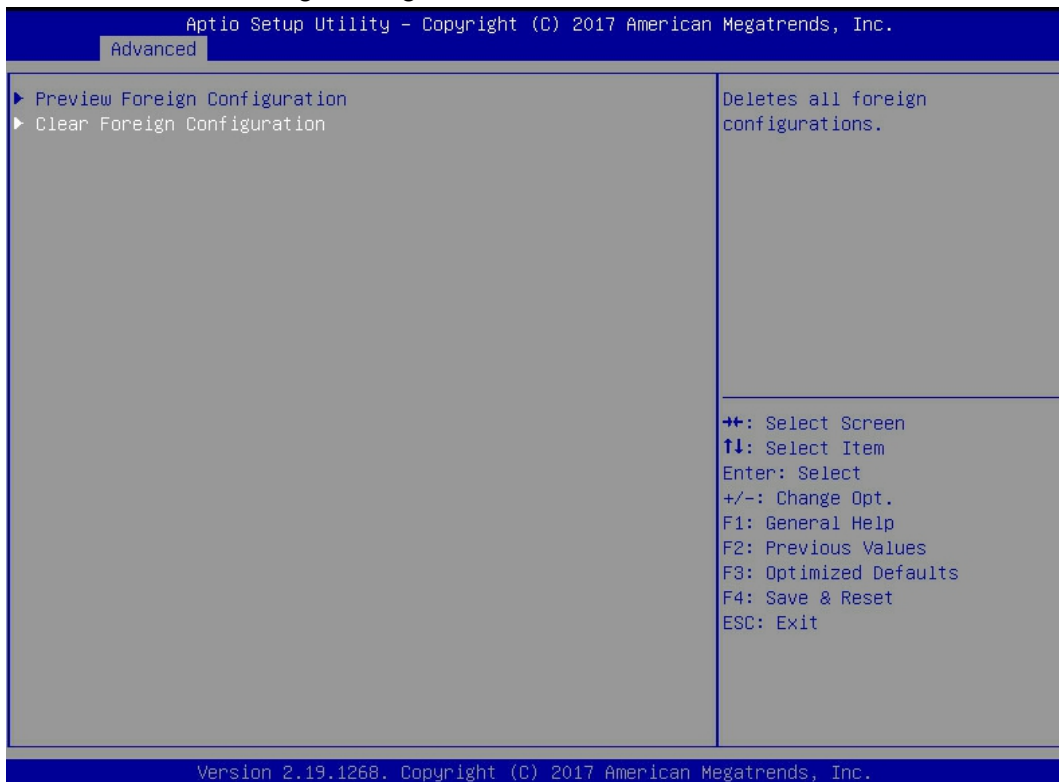

Figure 6-103
d) Enter the interface shown in figure 6-103, select clear foreign configuration, and press enter.
✧ Figure 6-103 select clear foreign configuration